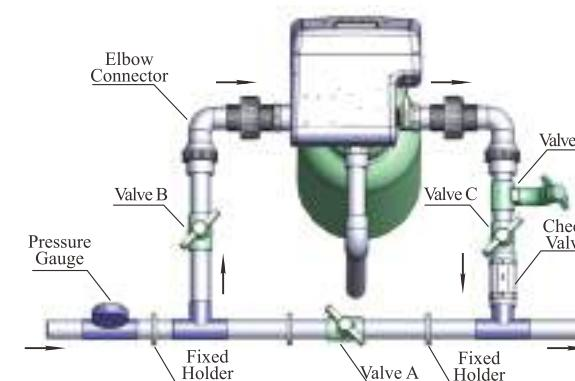

Figure 1-2
a. As Figure 1-2 shows, install a pressure gauge in water inlet.